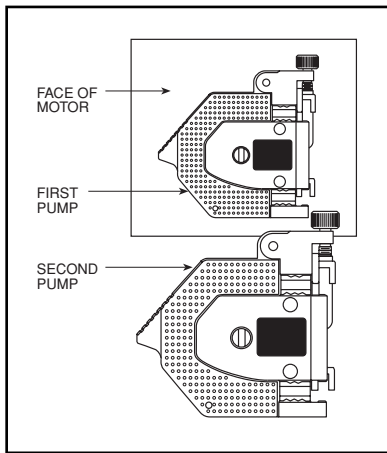
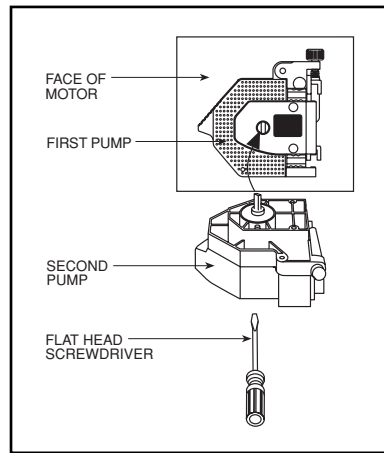

Figure 3-5. Placing the Second Pump on Top of the First Pump
Figure 3-6. Aligning the Rotor Shaft of the Second Pump
4. Refer to Figure 3-5 and Figure 3-6. Place the blade of the flathead screwdriver in the groove of the Rotor Shaft of the second pump. Rotate the Rotor Shaft of the second pump until its back tab slips into the groove of the Rotor Shaft of the first pump.